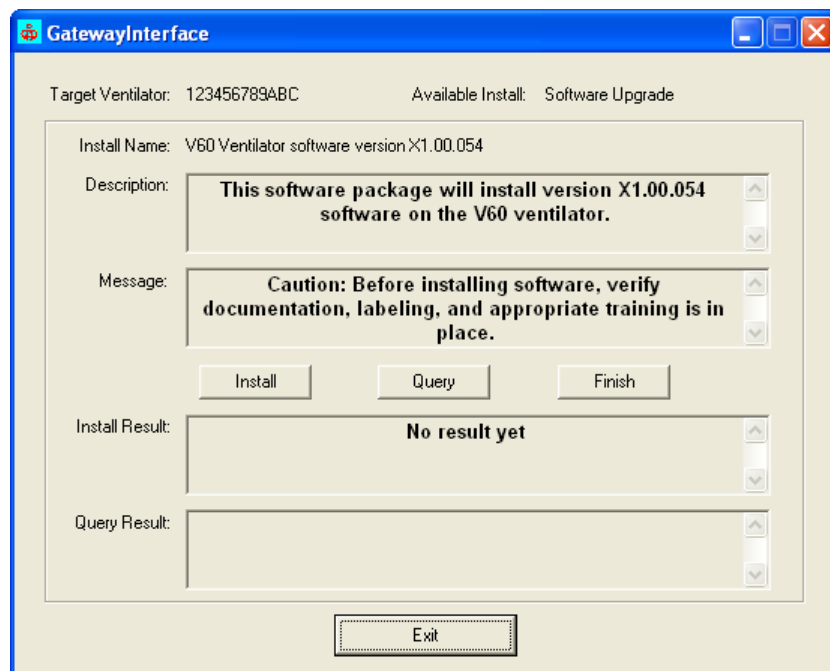

Figure A-19: Installation Confirmation Screen
16. When the V60 installation program screen closes, click **Finish** on the GatewayInterface screen to send confirmation to Respi-Link that the software installation was successful (Figure A-19).